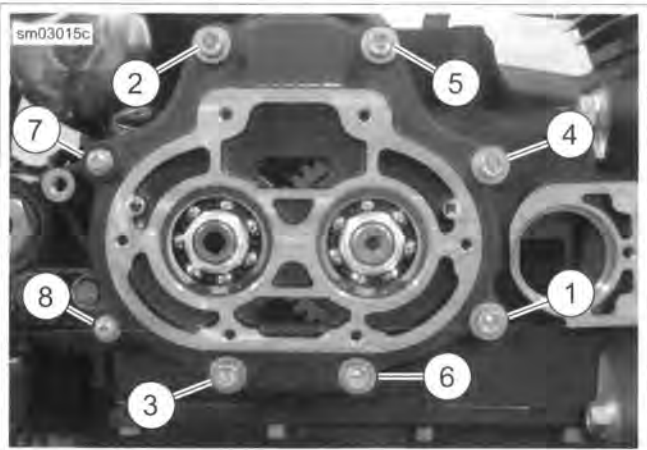

Figure 6-12. Torque Sequence
13. See Figure 6-12. Remove the transmission bearing housing: